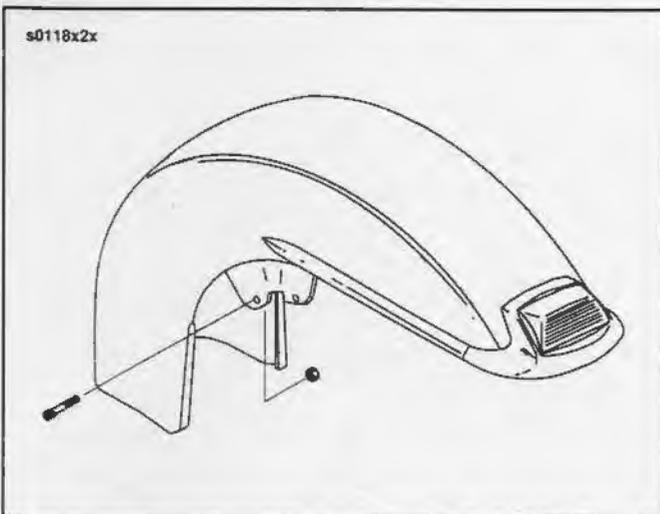

Figure 2-90. Front Fender - FLSTC
2. See Figure 2-90. Remove screws and flange nuts that hold fender in place. Disconnect fender tip lamp and remove fender.